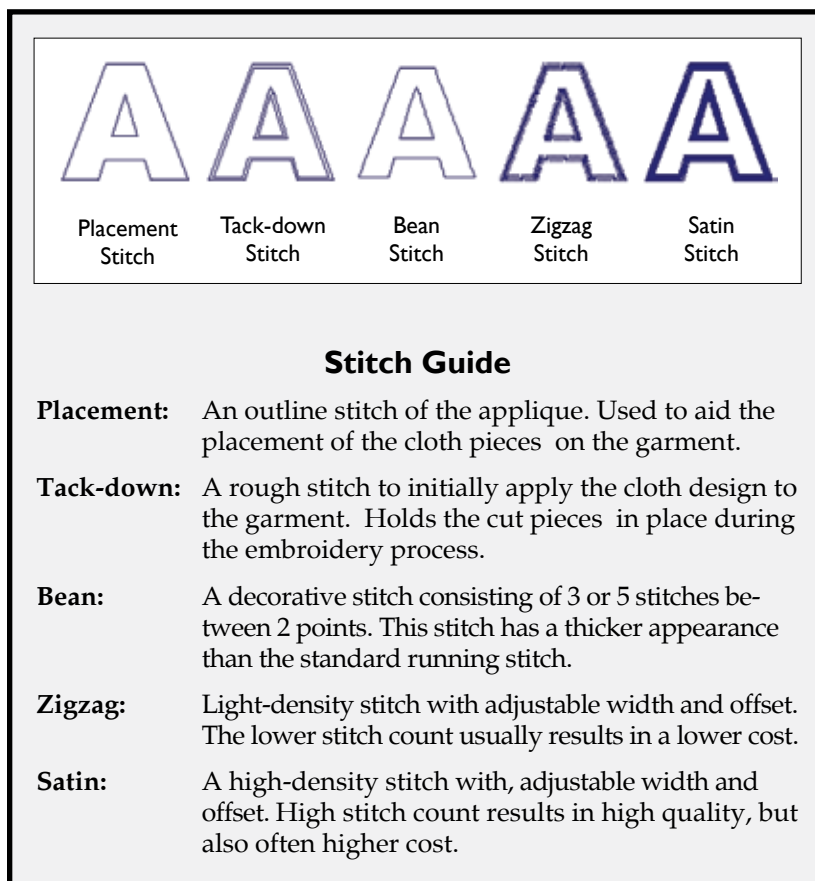

Figure 20. Descriptions of stitch types.
2. Click on the **Create Stitches** button. See **Figure 20** for samples and an explanation of the 5 stitch types.